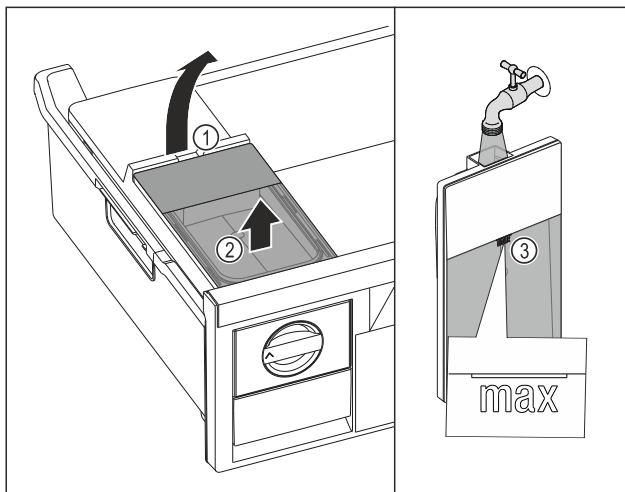

Fig. 113
- Lift the water tank at the recess Fig. 113 (1).
- Remove the water tank by lifting it upwards. Fig. 113 (2)
- Fill the water tank with drinking water up to the mark Fig. 113 (3).